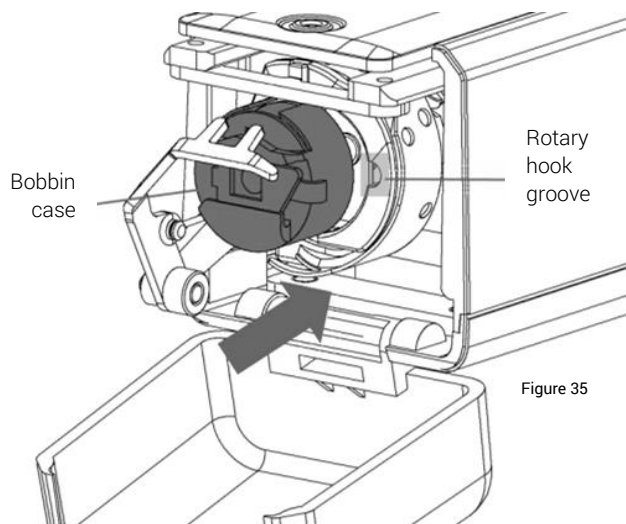
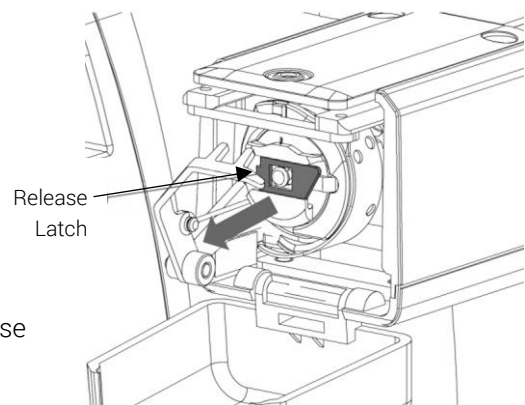

Figure 35
Figure 40
1. Grab the bobbin case by the bobbin case release latch and insert it into the machine. See Figure 35.
- **Note:** Ensure the thread tail is no longer than three (3) inches. A longer tail can wrap around the shaft and create a “buildup” of thread. If the thread is not long enough, the needle will be unable to grab it.
2. Hold the bobbin case with the pigtail facing up. See Figure 40.
3. Insert the bobbin case into the rotary hook by aligning the bobbin case with the rotary hook groove. See Figure 35.
3. Grab the bobbin case by the bobbin case release latch. See Figure 40.